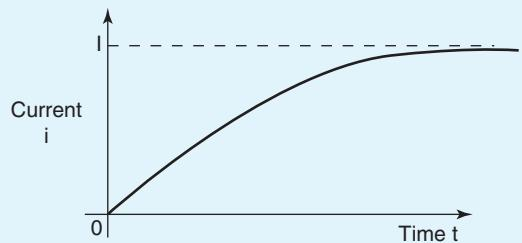

Figure 18.21
18. The graph shown in Fig. 18.21 represents the growth of current in an  $L - R$  series circuit connected to a d.c. voltage  $V$  volts. The equation for the graph is: